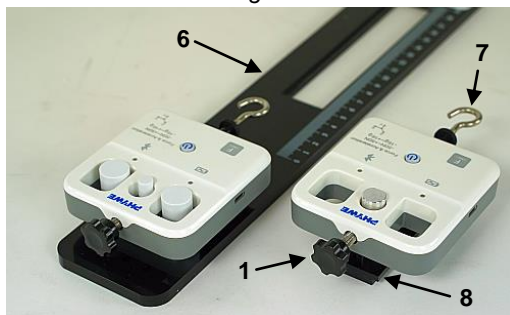

Fig. 3
3.2.1 Screw the two Cobra SMARTsense Force & Acceleration sensors onto the base plates (6) and the carriage (8) using the knurled screws (1) as shown in Fig. 3.